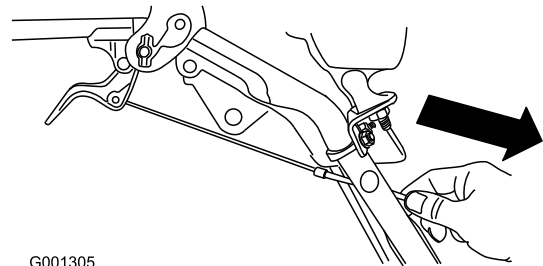

Figure 9
1. Cable clamp (2)
4. Pull the cable jacket down gently until the wheel-clutch lever is down and the slack is out of the cable, then tighten the cable-clamp nut securely (Figure 9).